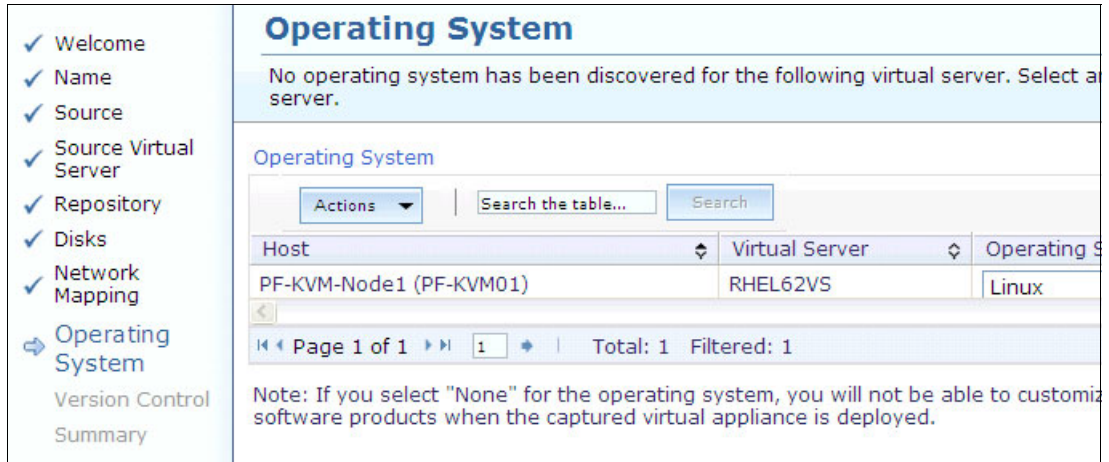

Figure 9-148 Virtual server captured operating system
9. If no operating system was discovered from the original virtual server, you must specify the type of operating system as shown in Figure 9-148.